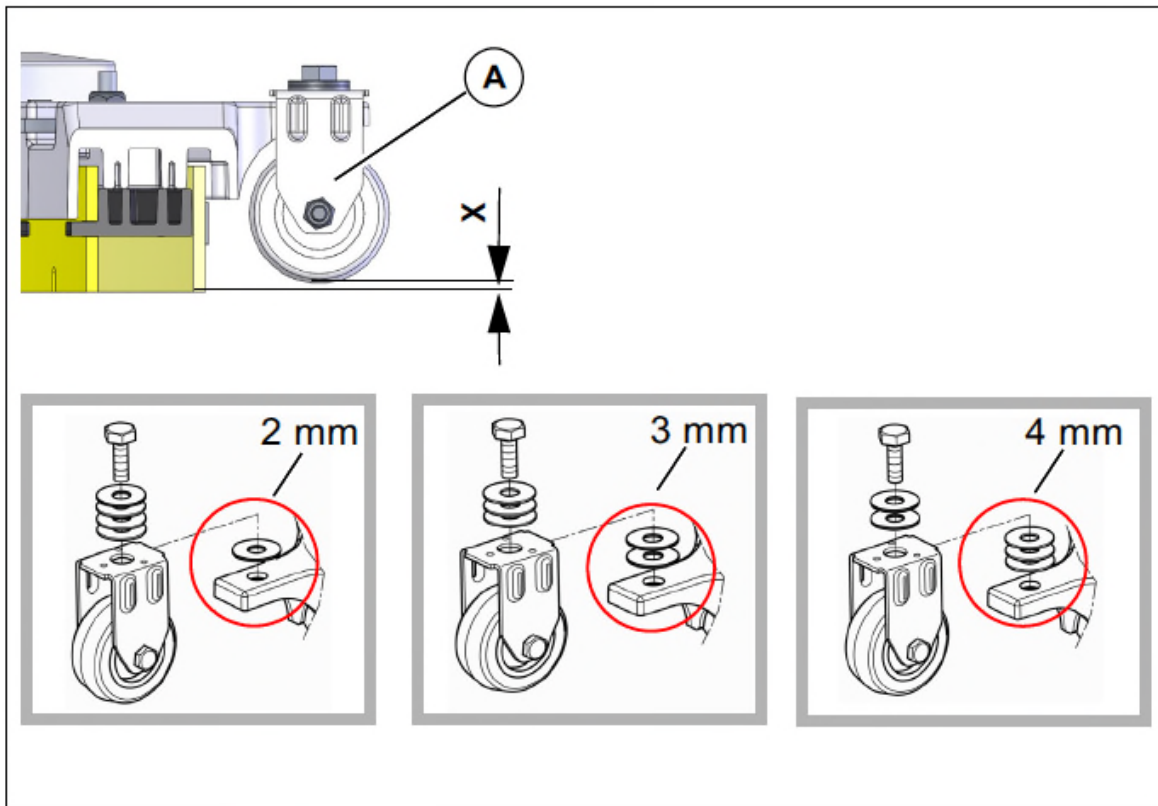

Figure 7.4
The height adjustment (X) of the supporting rollers Fig. 7.4 (A) has been set to 3 mm in the factory. If striping still occurs despite optimum inclination adjustment, set the distance of the supporting rollers to the lower edge of the sealing strip by adjusting the number of washers under the supporting roller holder.